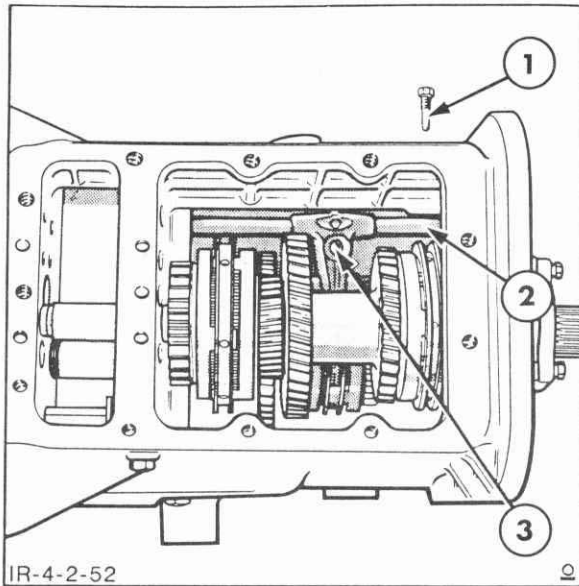

Figure 4-165
2. Install the lower shift rail locating bolt, Figure 4-165. Remove the brazing rod used to support the fork from the transmission. Tighten the locating bolt to 45-54 ft. lbs.